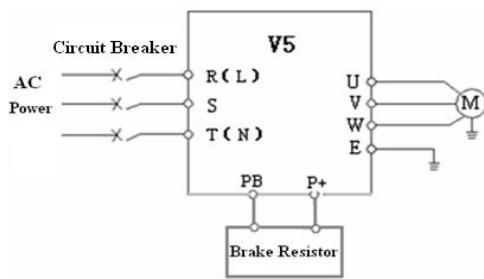

Fig. 2-3 Wiring of main circuit
- Do not install electromagnetic contactor, absorption capacitor or other resistance-capacitance absorption devices, as shown in Fig2-3.